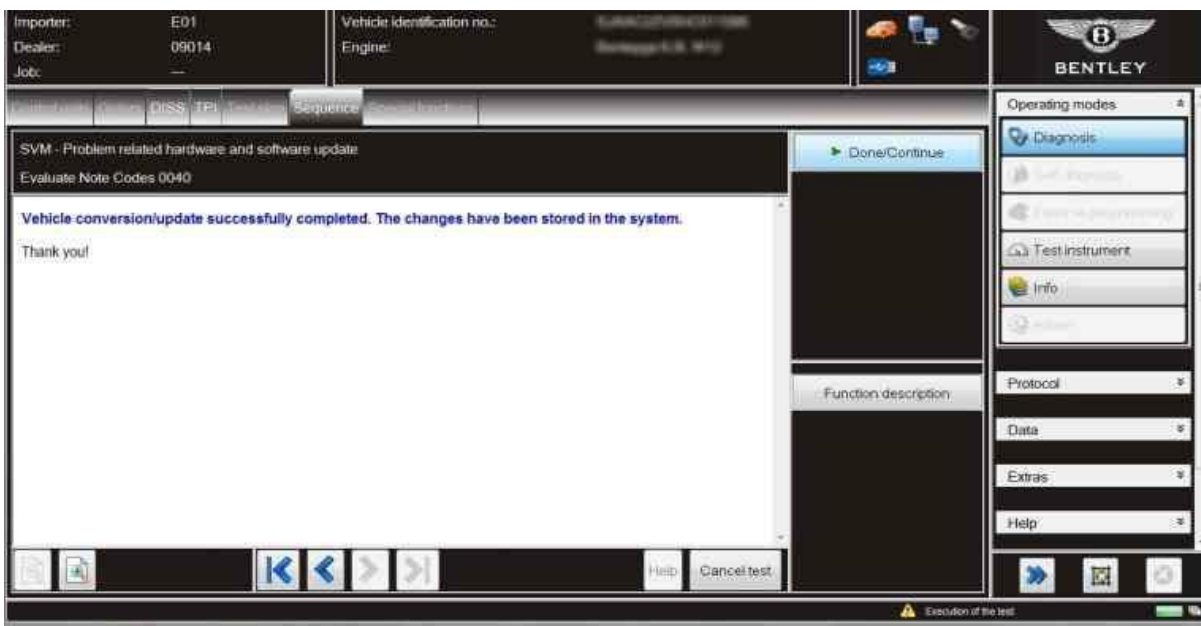

Figure 6
8) Once all updates are complete, a confirmation message will appear, select Done/Continue (Figure 6)